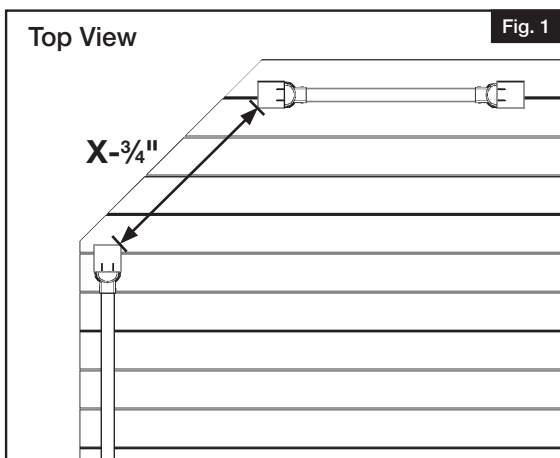

Fig. 1
a. Measure distance between post from inside corners (Fig. 1) that will be using the pre-molded adapter and the next post. Subtract 3/4" from that distance and that will be the length you will need to cut your top and bottom rails (Fig. 1).